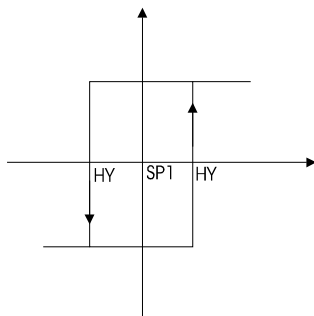

Fig. 3
In the case of window type threshold "SP1" selects the first commutation (see fig.3)
- Simple triggering threshold see fig.3